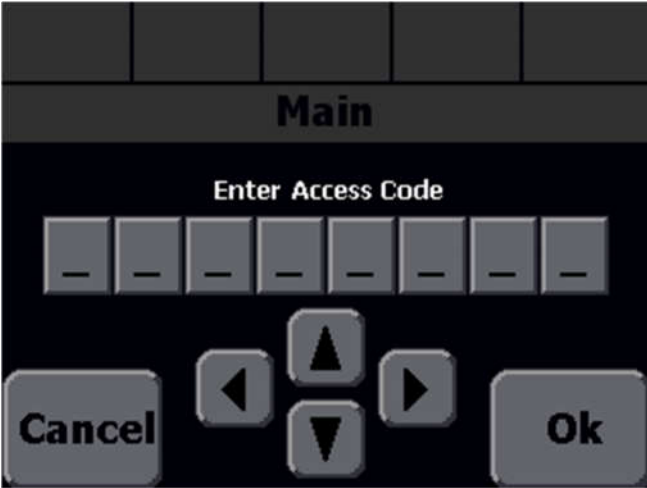

Figure 1: The Access Code Window
2. Press the Calibration menu button. The Access Code window will appear, as shown in Figure 1.